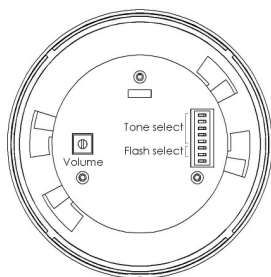

Figure 3
4. Set the Flash options via DIP switch shown in Figure 3, in accordance with the setting data on the reverse.